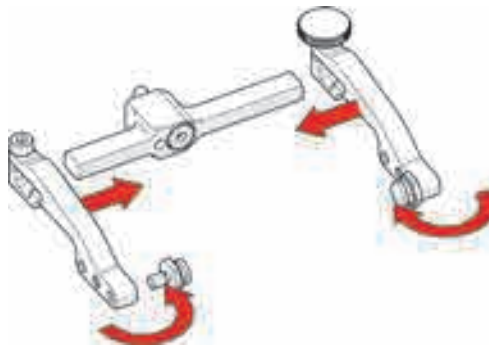

Figure 4-69 Attach arms and move buttons
5. Place the pivot buttons on the inside of the probe holder arms, using the 0.375 in. wrench (see Figure 4-69 on page 146).